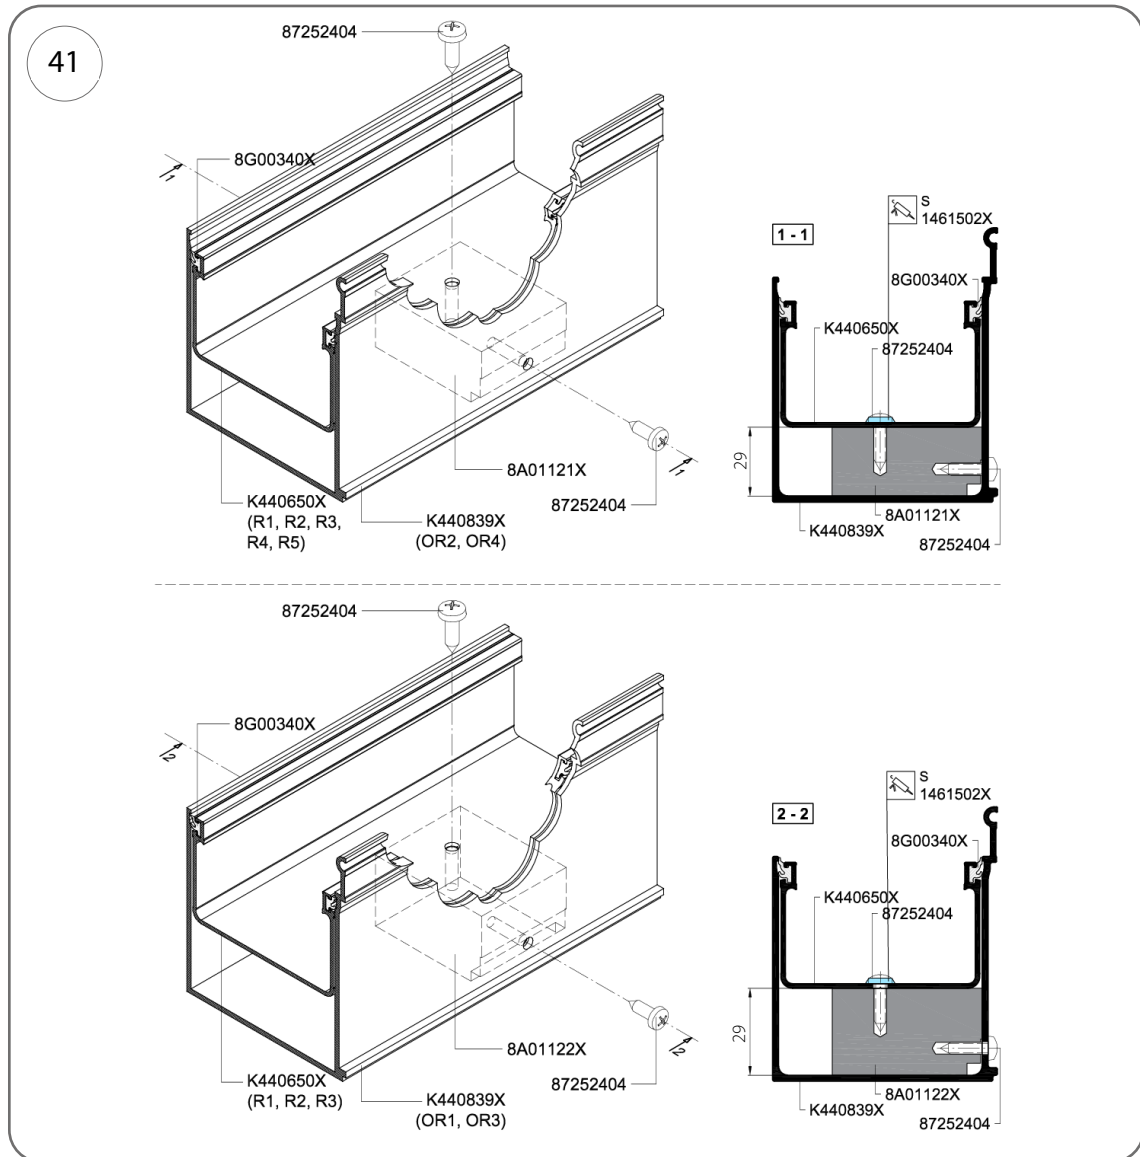

Fig. 41
5. Insert the K440650X gutter into the K440839X gutter housing and secure it to the housing as shown in Fig. 41.
Fig. 41 shows the connection of the K440839X gutter to its K440839X housing. The connection is intended to create the gutter's drop height. To do this, as shown in Fig. 41, fix spacer no. 8A01121X or 8A01122X halfway along the gutter's length using $\varnothing 4.2 \times 16$ mm screws (no. 87252404). A seal (cat. no. 8A00340X) should be inserted into the channel along its entire length, on both sides.